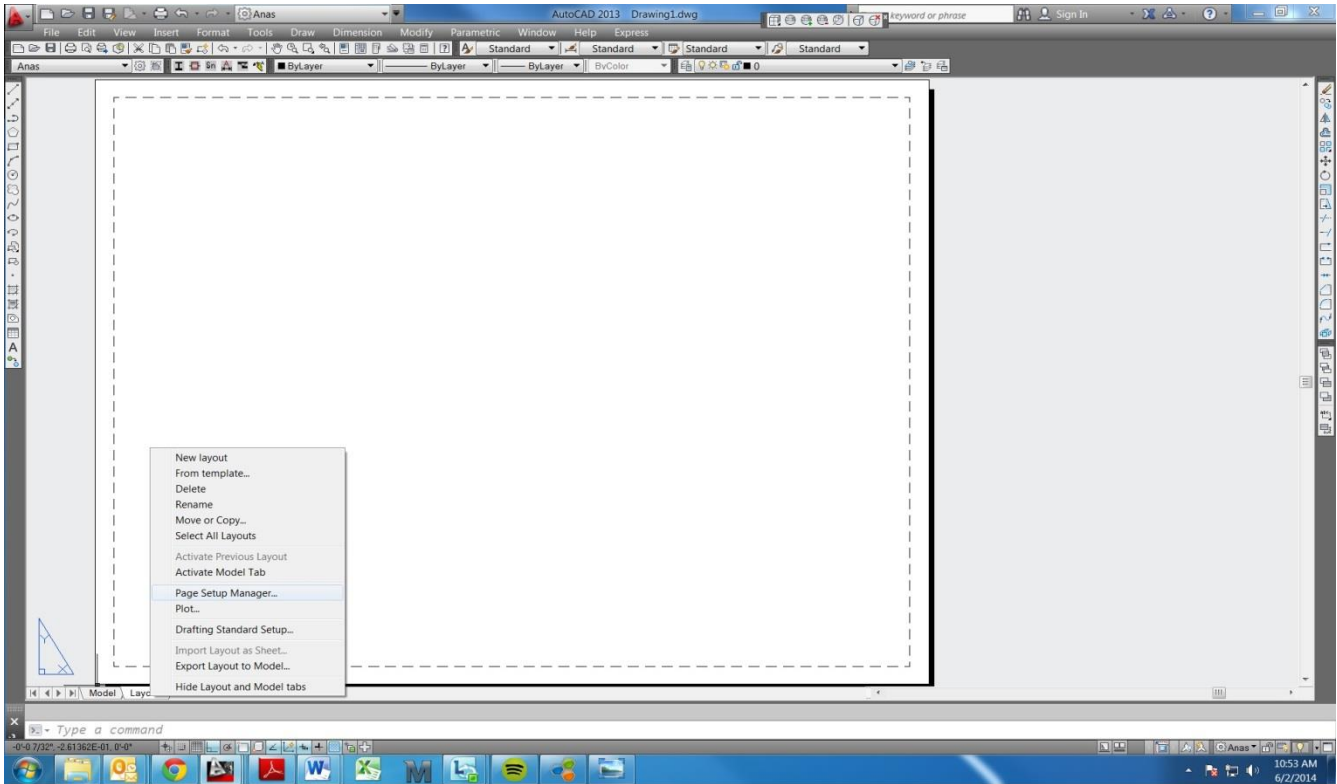

Figure 5 – How to setup paper space dimensions & orientation
1. **Right click** on the Layout tab on the bottom of the screen (Figure 5).